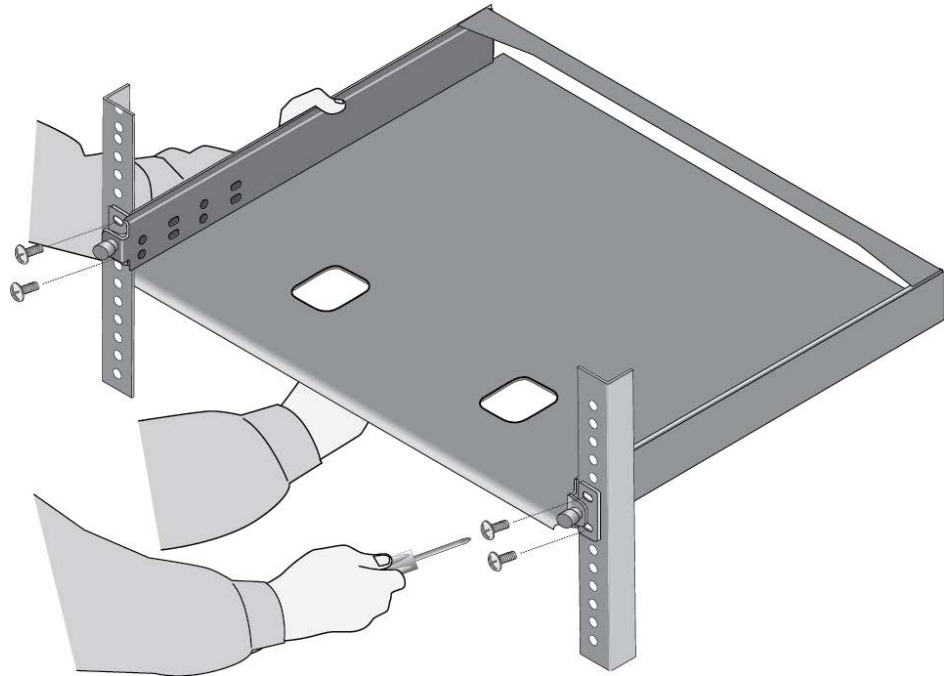

Figure 38. Installing the RKMT-J15 Bracket in the Equipment Rack
1. Have another person hold the RKMT-J15 Bracket at the desired location in the equipment rack while you secure it using four standard equipment rack screws (not provided). Refer to Figure 38 on page 76.